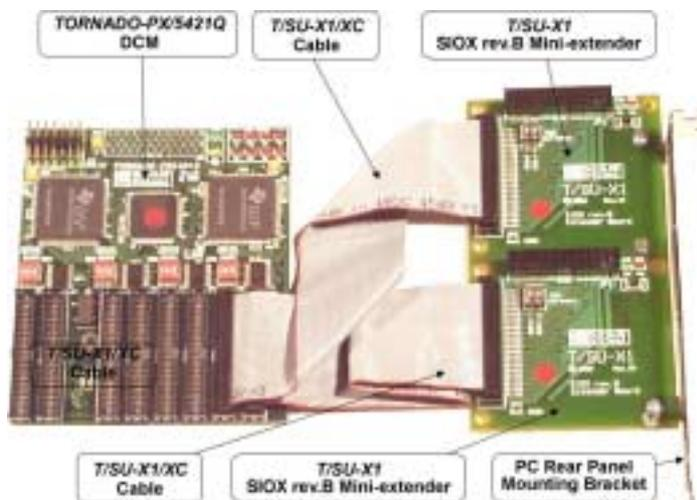

Fig.B-3. Connection of dual *T/SU-X1* SIOX rev.B mini-extender to host *TORNADO-PX5421Q* P10X-16 DSP coprocessor DCM.
*T/SU-X1* SIOX rev.B mini-extender connects to host *TORNADO* DSP controller/coprocessor via *T/SU-X1/XC* 10" (0.25m) long connection cable (fig.B-3), which connects to the MXSIOX connectors on the *T/SU-X1* SIOX rev.B mini-extender on one side and to with the corresponding MXSIOX matching connector host *TORNADO* DSP controller/coprocessor.
T/SU-X1/XC mini-extender connection cable plugs to MXSIOX connector of T/SU-X1 SIOX rev.B mini-extender carrier board on one side and to MXSIOX connector of host *TORNADO* DSP coprocessor/controller on the other side (fig.B-3).